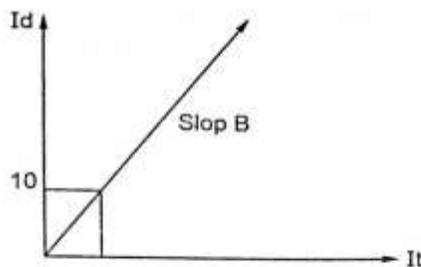

Fig. 4.58. Differential Relay Characteristics
- A relay characteristic is shown in Figure 4.58. Slope B of the operating characteristic is selected to make the relay insensitive to the CT mismatch and the dynamic errors.